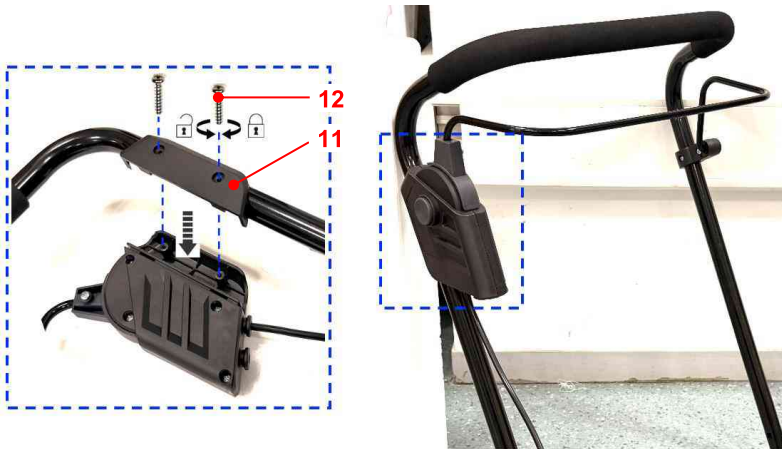

Fig. 14
1. Remove the self-tapping screws ST4.2*19-F (12) using a Philips #2 screwdriver. Disassemble the switch box from the mounting plate (11) (Fig. 14).